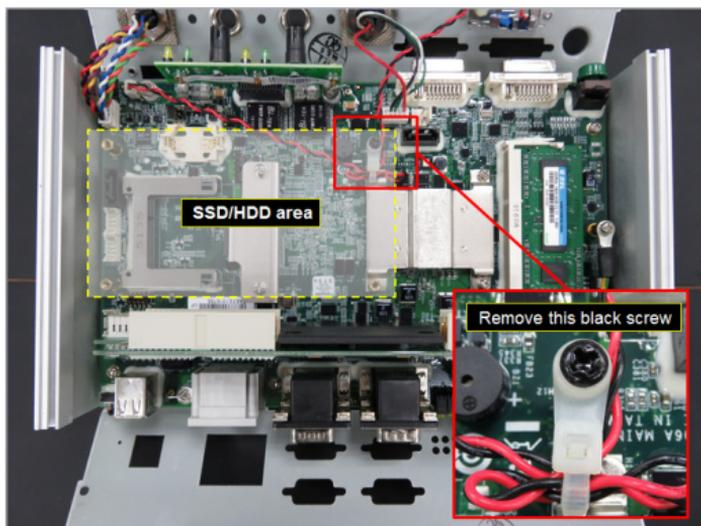

Figure 26
- 4.3.1 Use a Phillips screwdriver to remove the black screw located in the SSD/HDD area on the main board as shown in Figure 26.